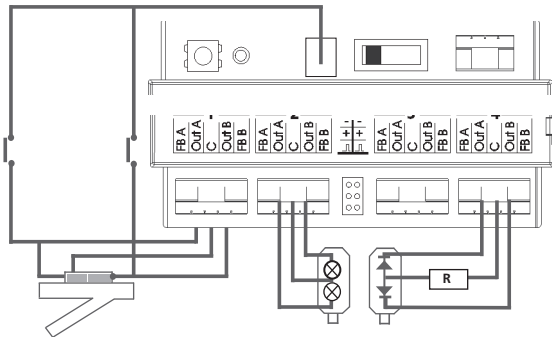

Figure 5: Connection to transistor outputs 1-4
**i** As shown in Figure 5 the double-coil turnouts can be switched with two optional push buttons without a digital command. The needed ground solder pad is not available on all SwitchPilot surfaces.
If the signal has incandescent lamps as shown for output 2 in figure 5 you may wire the lamps directly to the terminals of the SwitchPilot.
In order to limit the current for signals with LEDs a resistor must be wired in series with the LEDs. This is shown for output 4 in figure 5.